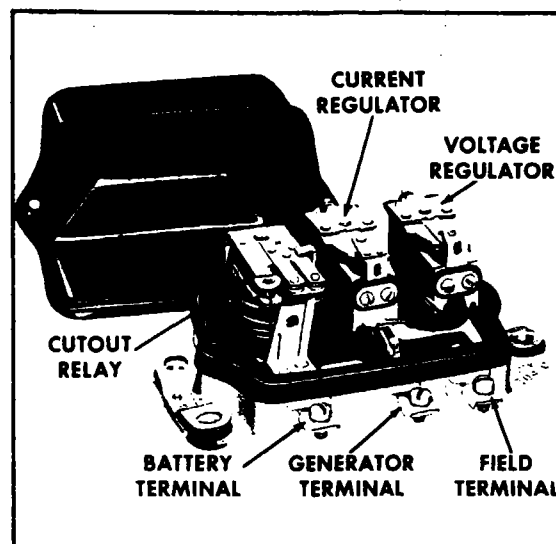

Figure 11-4. Current/Voltage Regulator
11-25. DESCRIPTION OF REGULATOR. The regulator shown in Figure 11-4 consists of a cutout relay, a voltage regulator and a current regulator unit. The cutout relay closes the generator to battery circuit when the generator voltage is sufficient to charge the battery, and it opens the circuit when the generator slows down or stops. The voltage regulator unit is a voltage-limiting device that prevents the system voltage from exceeding a specified maximum and thus protects the battery and other voltage-sensitive equipment. The current regulator unit is a current-limiting device that limits the generator output so as not to exceed its rated maximum.
a. The cutout relay (Refer to Figure 11-4.) has two windings, a series winding of a few turns of heavy wire and a shunt winding of many turns of fine wire (shown in dashed lines). The shunt winding is connected across the generator so that generator voltage is impressed upon it at all times. The series winding is connected in series with the charging circuit so that all generator output passes through it. The relay core and windings are assembled into a frame. A flat steel armature is attached to the frame by a flexible hinge so that it is centered just above the stationary contact points. When the generator is not operating, the armature contact points are held away from the stationary points by the tension of a flat spring riveted on the side of the armature.
a. The voltage regulator (Refer to Figure 11-4.) has two windings assembled on a single core, a shunt winding consisting of many turns of fine wire
a. The current regulator (Refer to Figure 11-4.) has a series winding of a few turns of heavy wire which carries all generator output. The winding core is assembled into a frame. A flat steel armature is attached to the frame by a flexible hinge so that it is just above the core. The armature has a contact point which is just below a stationary contact point. When the current regulator is not operating, the tension of a spiral spring holds the armature away from the core so that the points are in contact. In this position the generator field circuit is completed to ground through the current regulator contact points in series with the voltage regulator contact points.